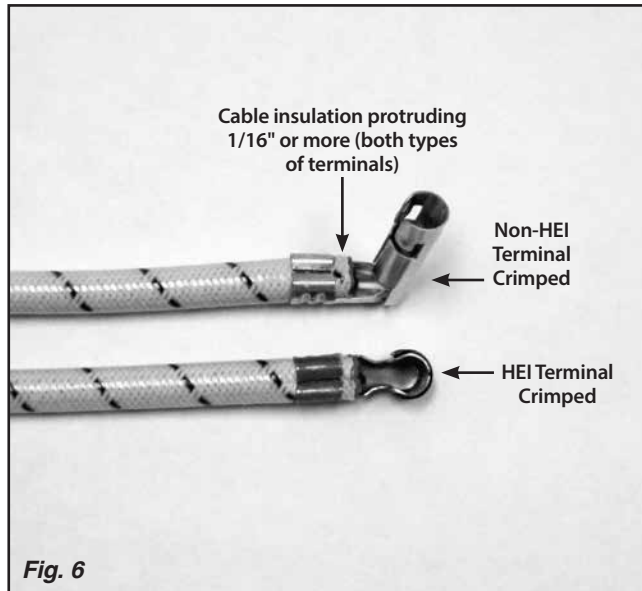

Fig. 6
Step 11: Use the crimper tool to crimp the terminal onto the cable. **Fig. 6**